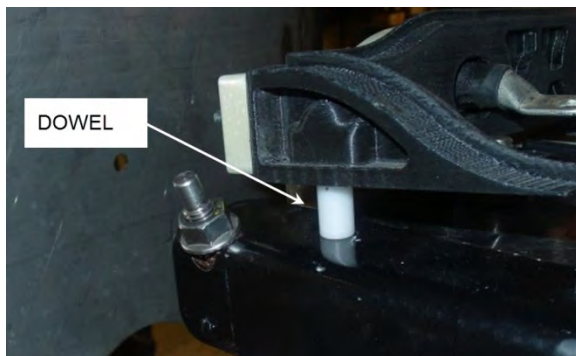

FIGURE 53: DOWEL ON ANGLE
5. Align the dowels on the angles with the holes on the cable guides (FIGURE 53).